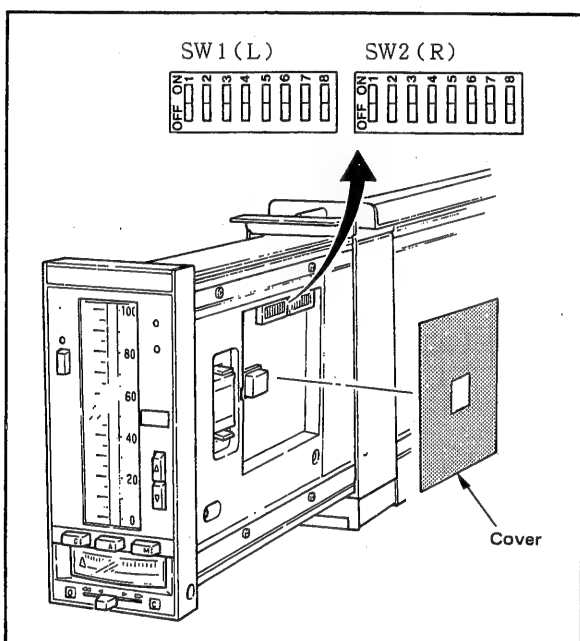

Figure 6-2-6. Eight-Position DIP Switches.
- (1) Remove the cover as shown in Figure 6-2-6.
- (2) Two 8-position DIP switches (L and R) are located side-by-side inside the cover. (See Figure 6-2-6.)